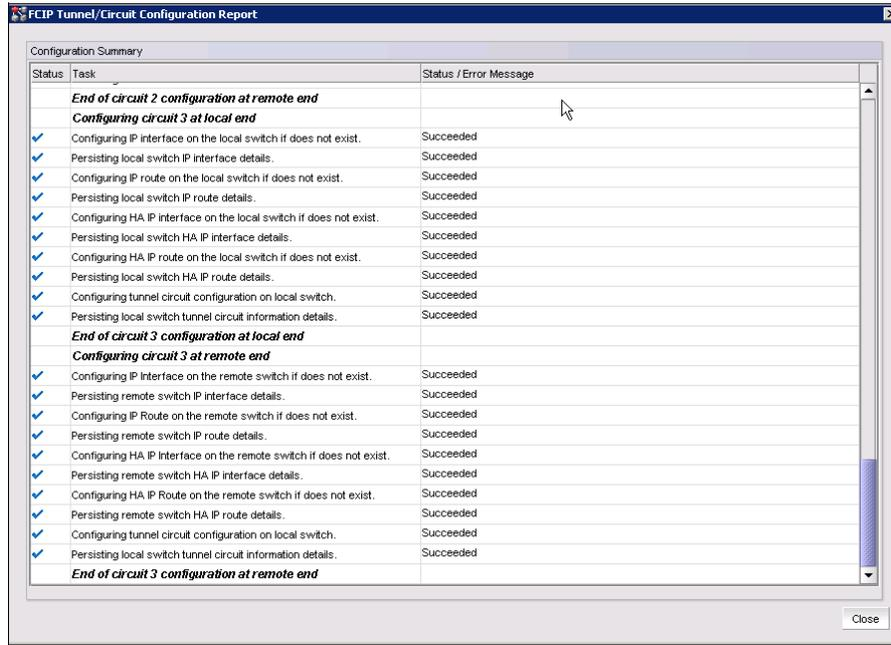

Figure 4-12 FCIP Tunnel Configuration report
11. After four FCIP circuits are configured, click **OK** to begin the creation process and monitor the status from the configuration report until it completes (Figure 4-12).